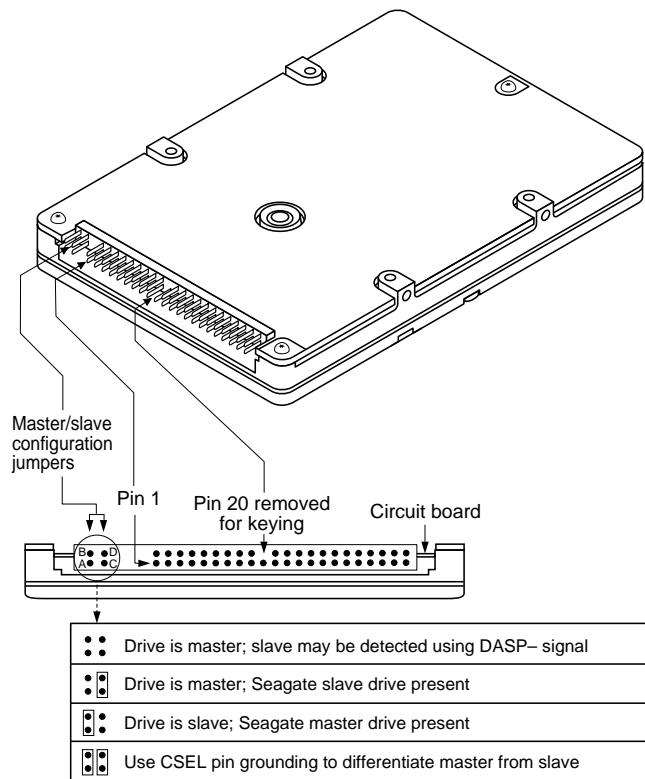

Figure 1. ATA interface connector and master/slave configuration jumpers
- 2. Install master/slave jumpers.** In a two-drive system, you need to designate one drive as the master, or drive 0, and the other drive as the slave, or drive 1. To do this, install the master/slave jumpers as shown in Figure 1. In a one-drive system, configure the drive as a master (no jumpers installed).
4. **Connect the 44-pin interface/power cable.** Match pin 1 of the cable to pin 1 of the interface connectors on the drive and on the computer. Pin 1 is usually denoted by a stripe along one edge of the cable. The location of pin 1 on the drive interface connector is shown in Figure 1 on page 3. The cable should be no longer than 18 inches (0.457 meters).
- **Check all cables.** Make sure that all cables are securely connected. Printed circuit and ribbon cables are quite fragile. Check to see that they are not crimped or damaged. Make sure that pin 1 of the interface cable is connected to pin 1 of the interface connector on the drive and on the computer. Most ribbon cables have a stripe down one side to designate pin 1. The location of pin 1 on the drive interface connector is shown in Figure 1 on page 3.